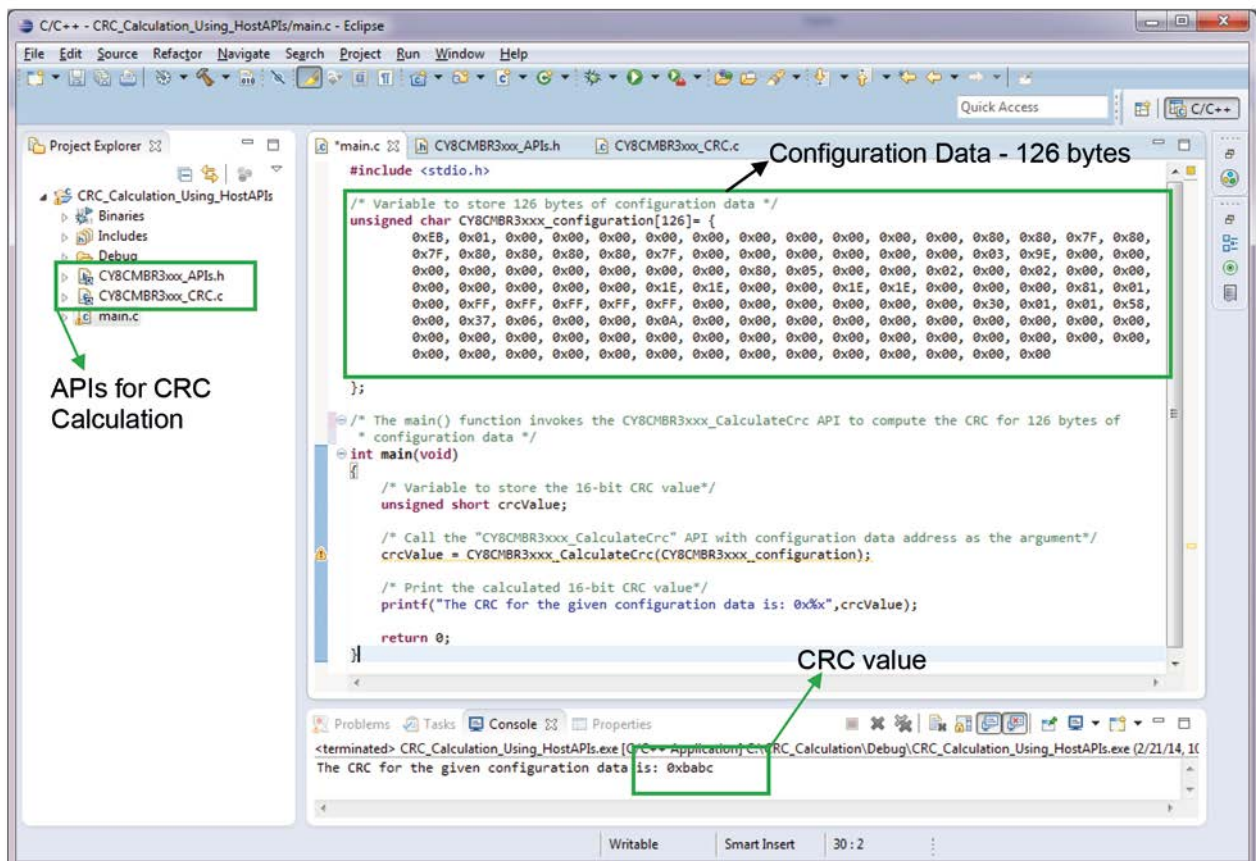

Figure 5-29 Computing CRC Value Using Host APIs in Eclipse C/C++ IDE
1. Download a C IDE. In the example shown in Figure 5-29, eclipse IDE for C/C++ is used.
3. Create a new source file with suitable title. In the example shown in Figure 5-29 the source file name is “main.c”.
4. In the main.c file, enter the following code shown in the Figure 5-29.